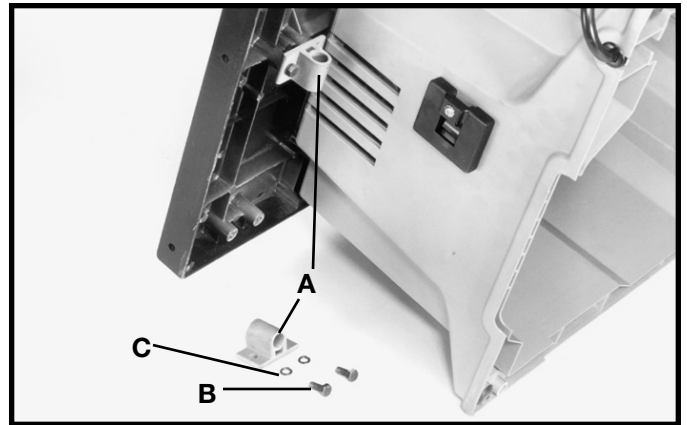

Fig. 31
1. Loosely fasten both brackets (A) Fig. 31, to the bottom left side of the saw table as shown, using two M6x1x15mm hex head screws (B) and M6.1 lockwashers (C). Assemble two remaining brackets to the bottom right side of saw table in the same manner.